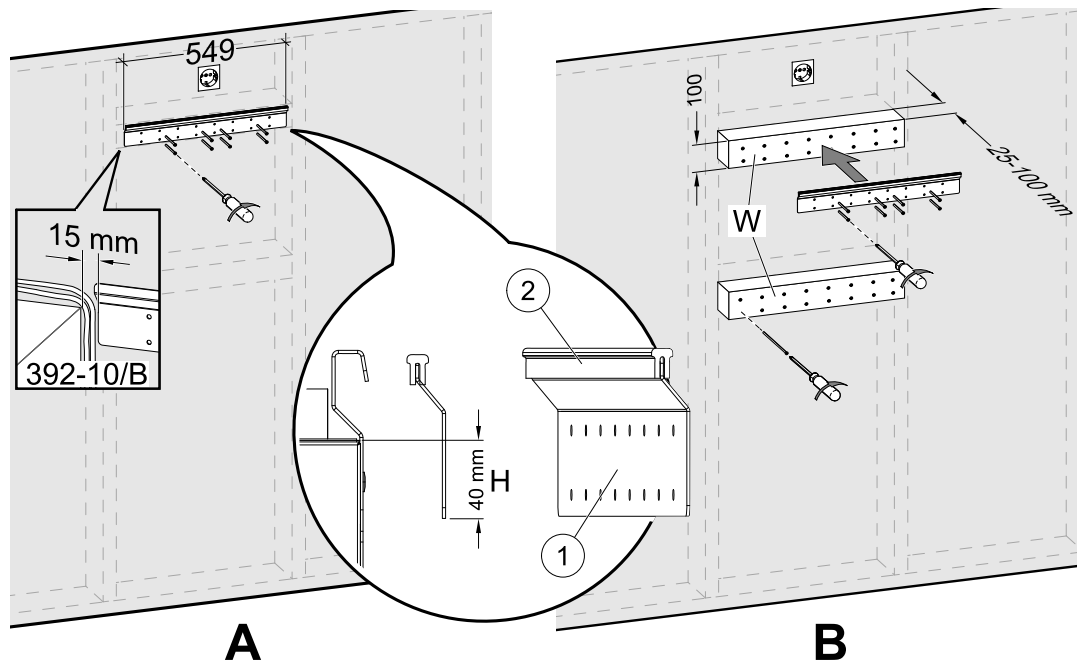

Fig. 12 Installation of mounting bracket without or with wooden blocks
2. Screw the mounting bracket (pos. 1) with the anti-vibration pad (pos. 2) to the wall (figure 12, pos. A). **Screws are not included**, choose them based on your wall type. Use appropriate holes to screw the bracket firmly to the wall. Bottom side of bracket should be 40 mm (H) below top of unit position.
In case the depth of cabinets is much greater than the unit, install wooden blocks (pos. W) to compensate the missing distance (figure 12, pos. B). Then install the mounting bracket on the upper block. Choose thickness of blocks according to your needs.